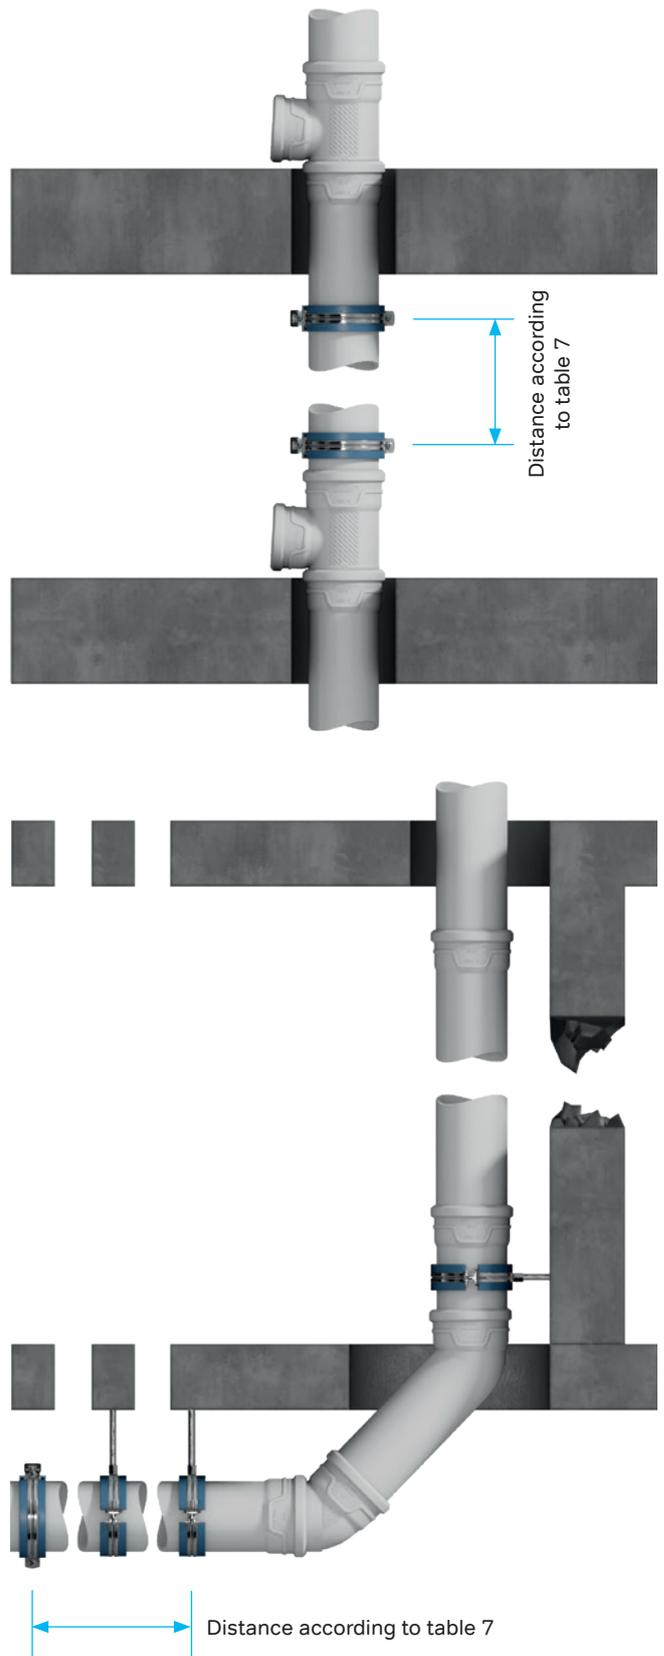

Figure. 26: Example horizontal and vertical installation.
- In multiple storey buildings (from 3 storeys and more) the stack pipes of 110mm must be secured by additional fixing (stack pipe support) to prevent sliding. In this case we advise using the Wavin AS+ socketed short length with a fixed bracket (see figure 26)